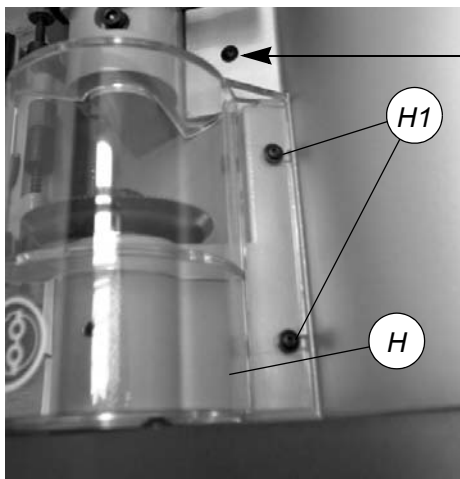

Fig. 39
- 2) Loosen the 2 screws (H1) on the cutter cover (H) and remove (fig.39).
- 2) Loosen the 2 screws (H1) on the cutter cover (H) and remove (fig. 39, page 28).
- 3) Loosen the 3 screws (T1) on the central cover (fig.39), raise slightly and remove, tipping a little.
- 7) Replace the central cover and fix with the 3 screws (T1) (fig. 39, page 28).
- 3) Loosen the 2 screws (H1) on the cutter cover (H) and remove (fig. 39, page 28).
- 4) Loosen the 3 screws (T1) on the central cover, raise slightly and remove, tipping a little (fig. 39, page 28).
- 19) Replace the central cover and fix with the 3 screws (T1) (fig. 39, page 28).
- 20) Replace the cutter cover and fix with the 2 screws (H1) (fig.39).